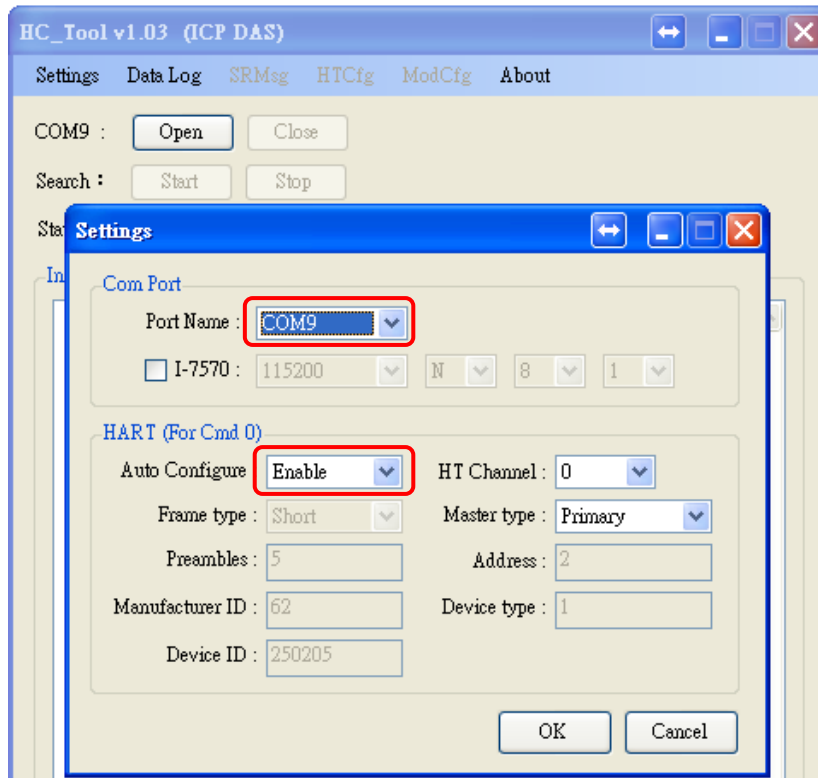

Figure 3-2: Set Com Port and HART Command Parameter
Step2: Set the "Port Name" and "Auto Configure" parameters like Figure 3-2.